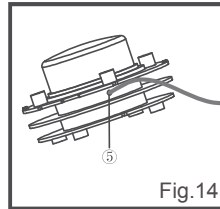

Fig.14
Line Replacement (See Figs. 14&15)
- Insert the trimming lines into each of the two anchor holes (⑤). One anchor hole is in the inside upper section of the spool as shown, and the other is in the opposite lower section of the spool (Fig. 14).